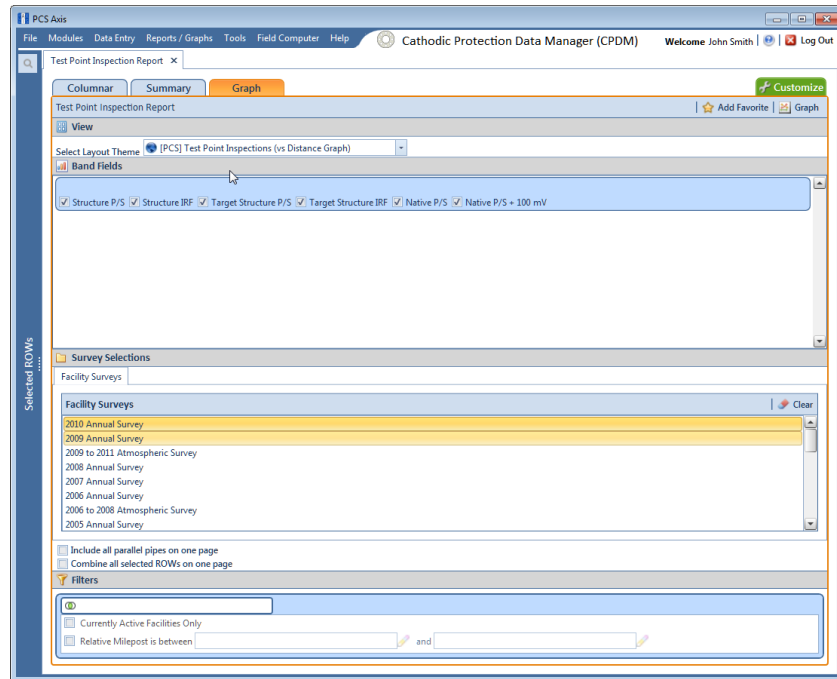

Figure 16-26. Test Point Inspection Graph Report
- 3 Click the **Graph** tab  to open a property settings window. For example, the next figure shows the property settings window for the *Test Point Inspection* graph (Figure 16-26, page 741).